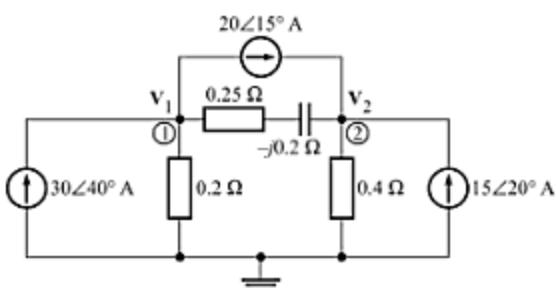

Fig. C-80
- C-133.** Solve the node voltages in the circuit shown in Fig. C-80. [Ans. $5.13\angle 47.3^\circ$ V, $8.18\angle 15.7^\circ$ V]